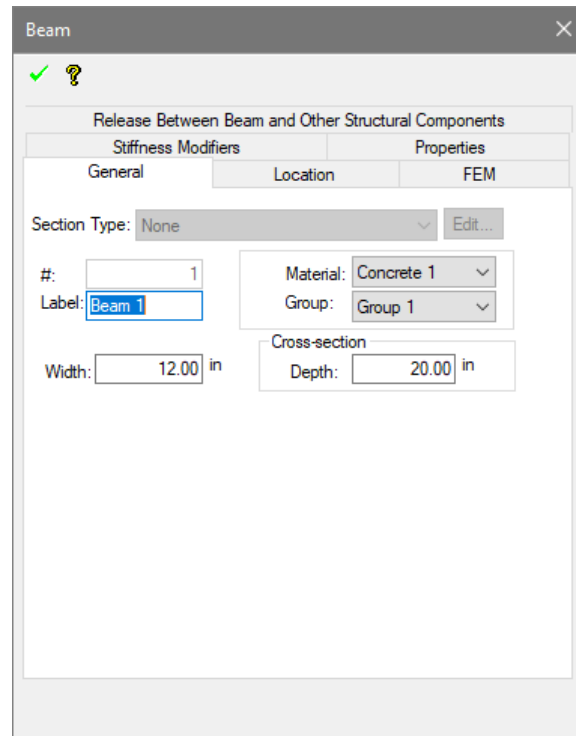

Figure 2-34
- Click on the *Item's Properties* icon  of the *Properties* panel. This will open up the *Wall* properties window as shown in **FIGURE 2-34**.